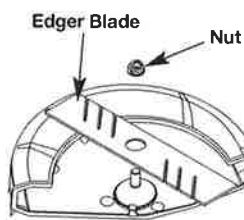

Fig. 17
- Install the new blade and nut (Fig. 17).
NOTE: Make sure the blade edges are facing the proper direction (Fig. 17). The unit will not function correctly if the edger blade is installed backward.